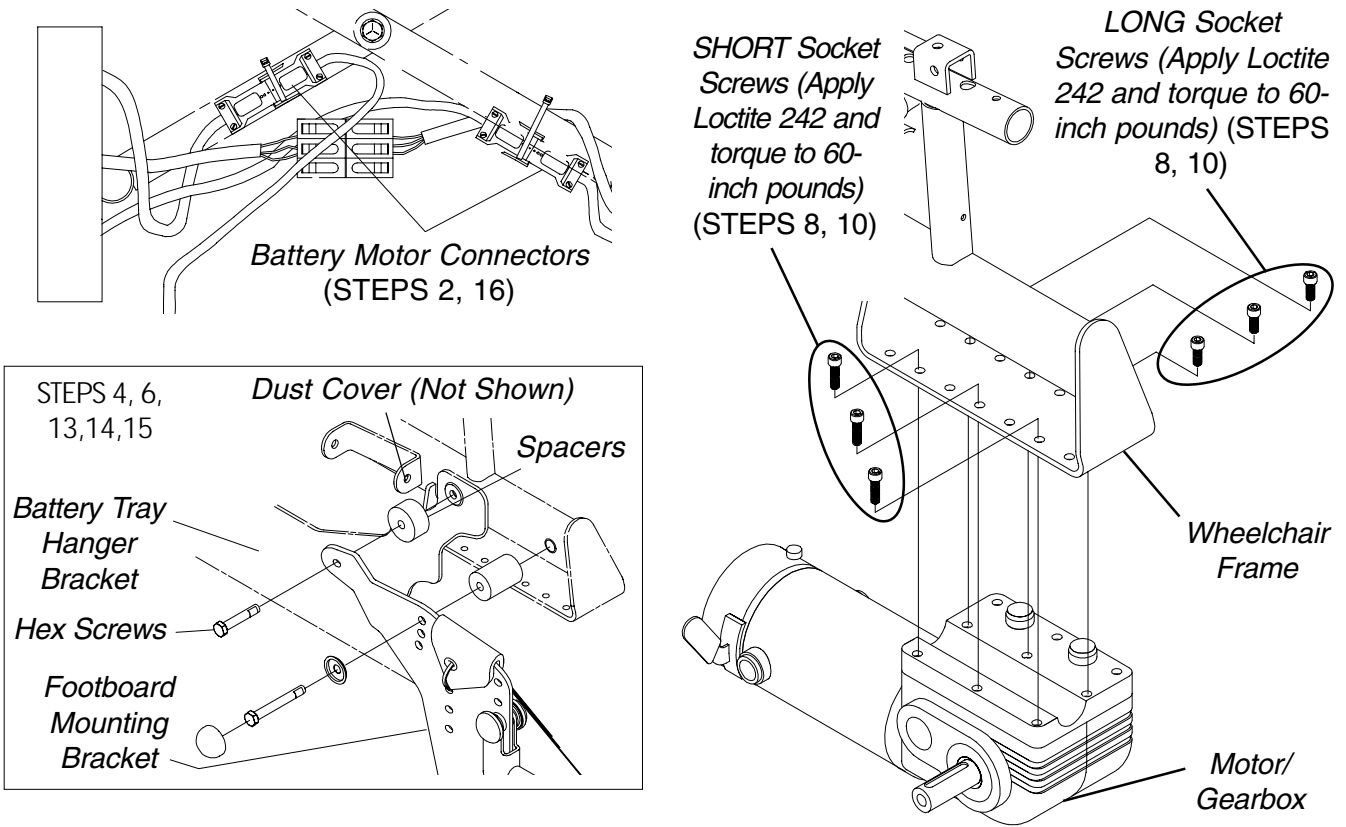

FIGURE 23 - REPLACING MOTOR/GEARBOX - RANGER II FWD - STANDARD
REPLACING MOTOR/GEARBOX - R2_{STANDARD} (FIGURE 23)
4. Perform one (1) of the following:
8. Remove the six (6) socket screws that secure the existing motor/gearbox to the wheelchair frame.
9. Position the new motor/gearbox on the wheelchair frame at the position noted in STEP 6 as shown in FIGURE 23.